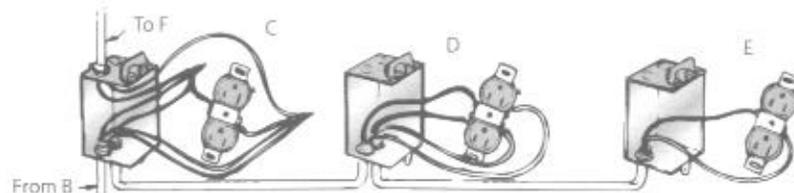

Fig. 10-5 Receptacle outlets are easy to connect, as this diagram shows.
Outlets *C*, *D*, and *E* are wired as shown in Fig. 10-5. Receptacles have double terminal screws so that the two wires from two different pieces of cable can easily be attached as shown. In the case of *C*, it is necessary to connect three different wires to each side of the receptacle, but there are only two terminal screws. *NEC* 110-14(A) prohibits more than one wire under one terminal screw. Splice all the blacks together and all the whites together, adding a short piece of wire called a "pigtail" to the white set and another to the black set, and connect these pigtails to the receptacle terminal screws. See Fig. 4-15.